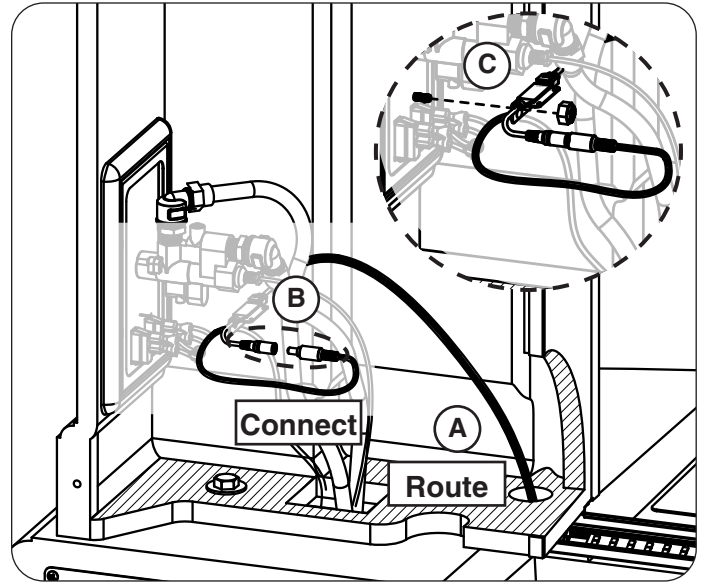

Fig. 29-1 Connect and mount LED strip
1. Route the LED strip wire assembly up through the hole and to the control box area (A). Connect the DC plug (B). Then mount the wire assembly to the control box using the pre-installed nut (C). See Fig. 29-1.